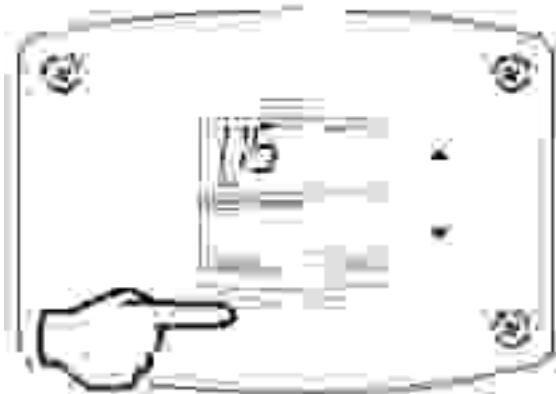

Fig. 55
1. In 'Service Mode' press the 'Select' button until 'Setpoint' is shown in the water heater display (Fig. 55).